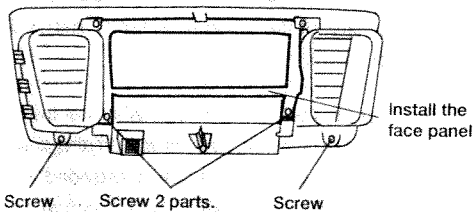

Figure 5-4
4. Place clock in place first then place face panel second then install ducts using previously removed screws, note locations of different screw types. (Figure 5-4)